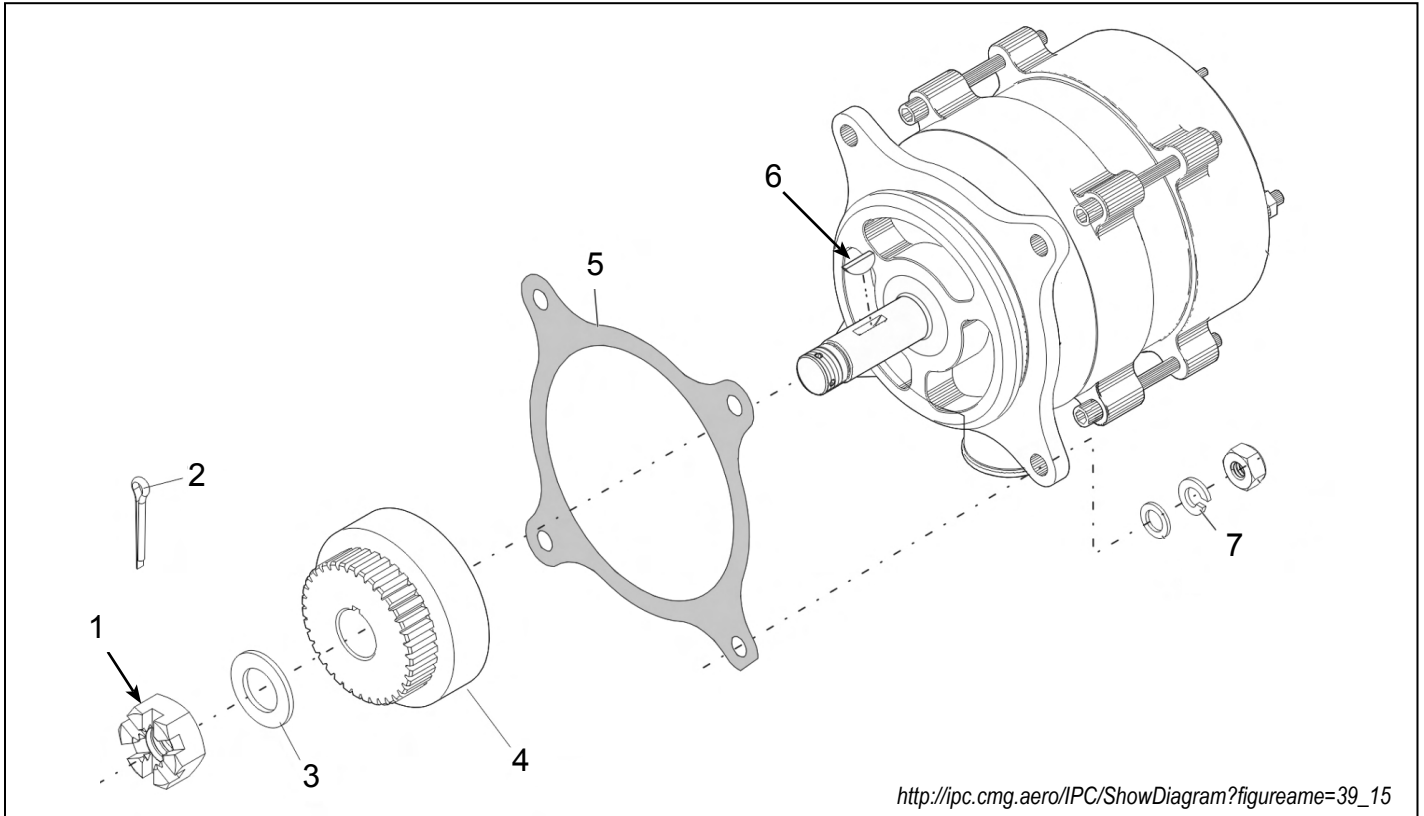

Figure 1 - Alternator, Typical - Continental Aerospace Technologies
- (1) Alternators listed in section 1.A could contain a castellated hex-nut (1, Figure 1) that does not torque flush with the thrust washer (3). This condition could compromise the integrity of the drive coupling retention system.
- (2) This ASB is to advise the field of a known condition and to supply inspection criteria to identify affected alternators.
Table 1- Materials Required (Refer to Figure 1)
- (5) Remove and discard from alternator; cotter pin (2), castellated hex-nut (1), thrust washer (3), and woodruff key (6). Refer to Figure 1.
- (6) Inspect drive coupling (4) in accordance with applicable service instructions.
- (7) Install new replacement components not affected by this ASB onto the alternator in accordance with applicable engine manufacturer's maintenance manual. Refer to Table 1 - Materials Required.
**NOTE:** Thrust washer (3) must be replaced per Continental Aerospace Technologies' M-0 Manual, *Standard Practice for Spark Ignited Engines*.